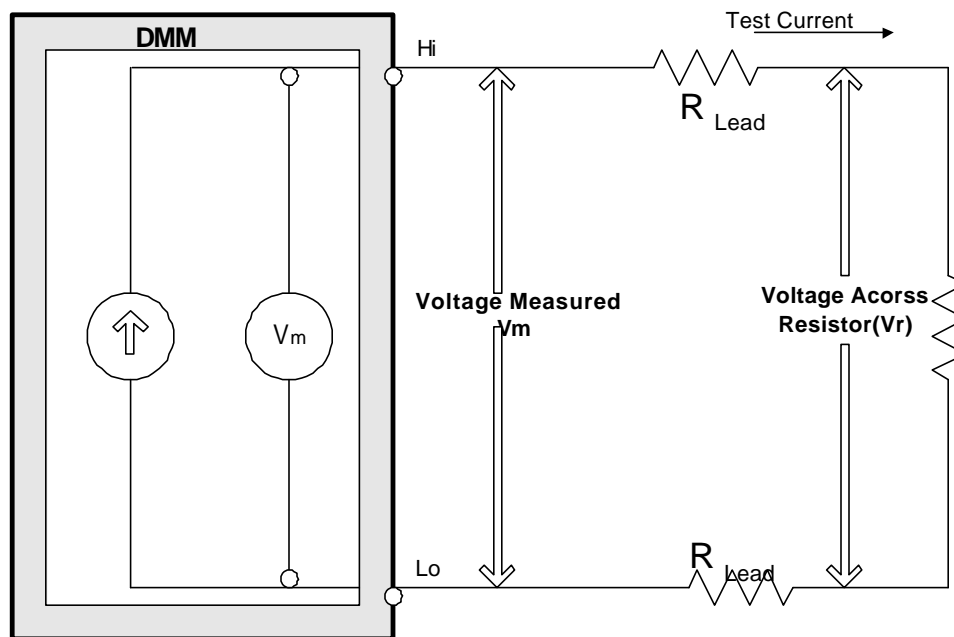

Figure 1
Figure 1 below illustrates the method used in 2-wire Ohms measurement. The test current (I) is forced through the test lead into the Device Under Test (R). The Voltmeter (V_m) measures the voltage developed at the HI and LO terminals. This voltage will be from the $I \times R$ drop across the Device Under Test (DUT) as well as from the $I \times R$ from the test leads.